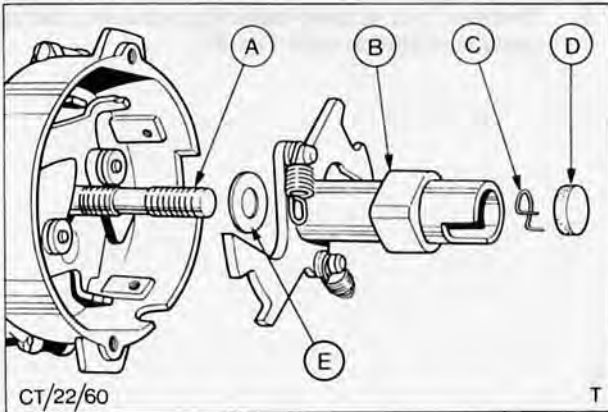

Fig. 44. A – Shaft
8. Remove felt wick from top of cam and plate assembly, detach spring clip using either small pair of circlip pliers or two electricians screwdrivers. Detach governor weight springs and withdraw cam spindle from body, Fig. 44.
- 12. Position thrust washer over main shaft. (E in Fig. 44.)